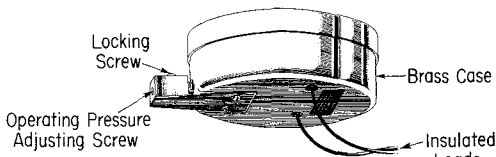

Fig. 6—H Pressure Contactor
2.08 The H pressure contactor (Fig. 6) is designed for installation inside the lead sleeve at a splice. It consists of a standard Bourdon tube and contact spring assembly housed in a brass case. Wire leads (3 feet long) are provided for making connections to the alarm pair in the cable.